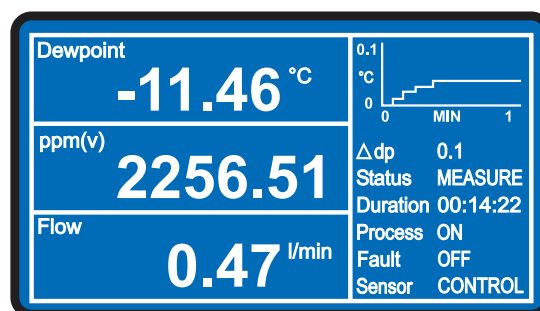

Figure 24 Main Display
1. Switch on the instrument by means of the Power **ON** switch located on the rear panel of the instrument. **NOTE: Rack mounted models will be turned on when the rack power supply is switched on.** The instrument display will now come on, typically showing the default parameters and units as detailed in *Figure 24*.